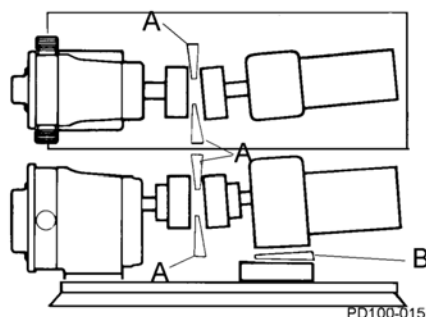

Fig. 19: Check Angular Alignment
1. Using feeler gauges or taper gauges (Figure 19, items A and B), check the alignment at four points every 90 degrees around the coupling; adjust to equal dimension at all points.